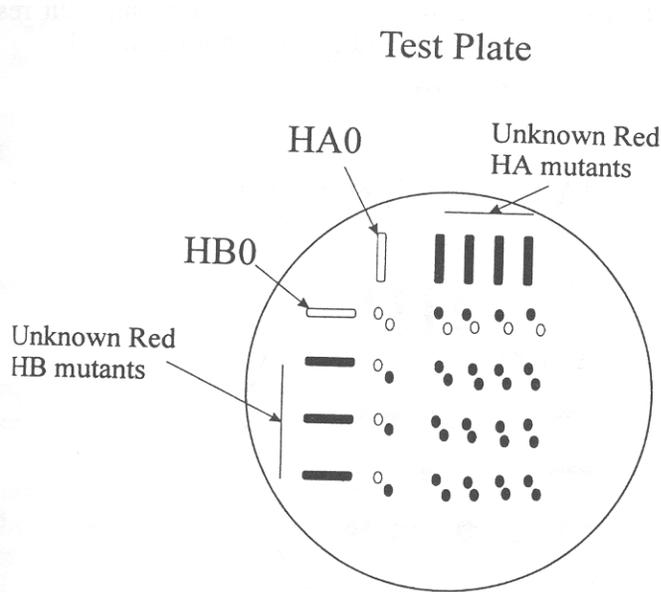

Figure 6.4.
- Repeat step one for the HB0 and the HB unknowns. Do not mix or touch the HA samples. If you do, use a fresh toothpick. Your plate should now look something like Figure 6.4. (The number of mutants may vary.)